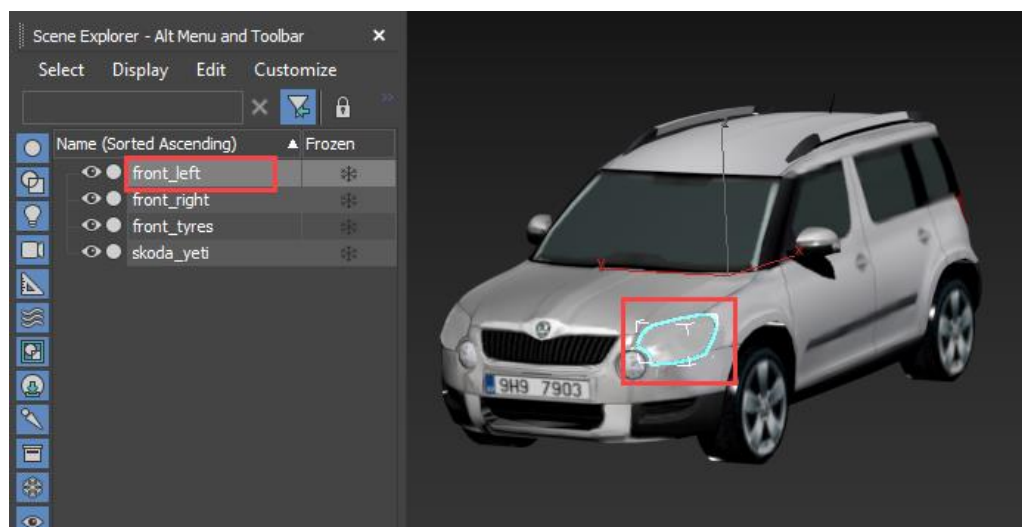

Figure 1.7. Select element
1. In the **Scene Explorer** select the element to which you would like to attach another element. Selected element will be highlighted in the main window, see Figure 1.7.